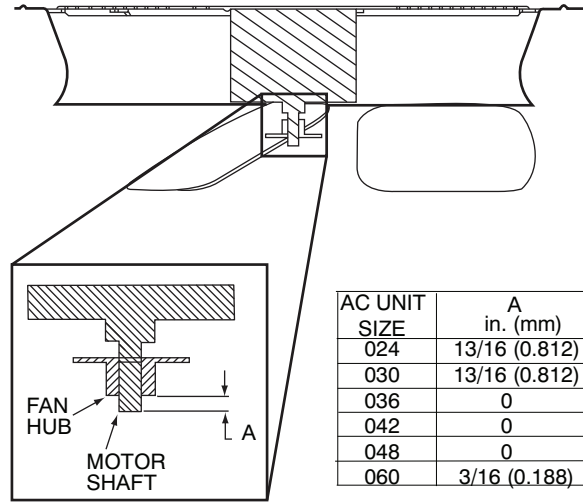

Fig. 17 - Outdoor Fan Adjustment
5. When replacing fan blade, position blade as shown in Fig. 17. Tighten setscrews.